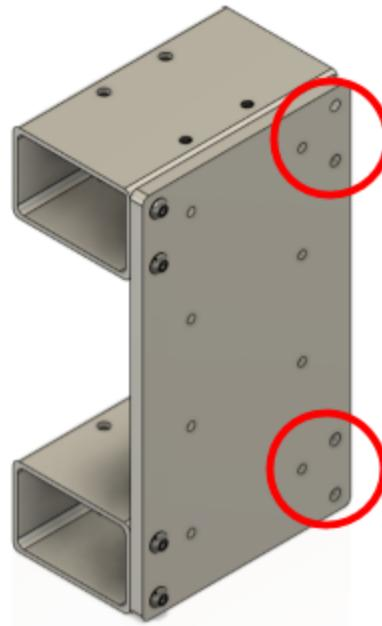

Figure 9.4
22. Mount the top and bottom roller beams onto the Z-Axis faceplate using 4 M6x15mm button head bolts as shown in Figure 9.4.
24. Mark the 6 holes circled in Figure 9.4 with a self centering marking tool.